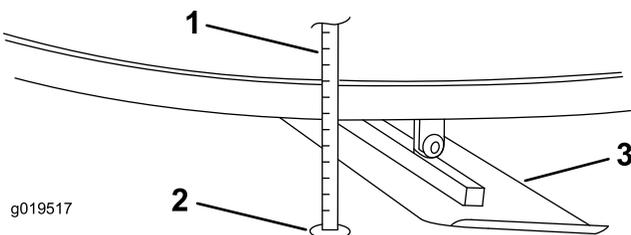

Figure 31
4. Place a mark on the blade and on the spot on the floor from where the measurement was taken (Figure 31).